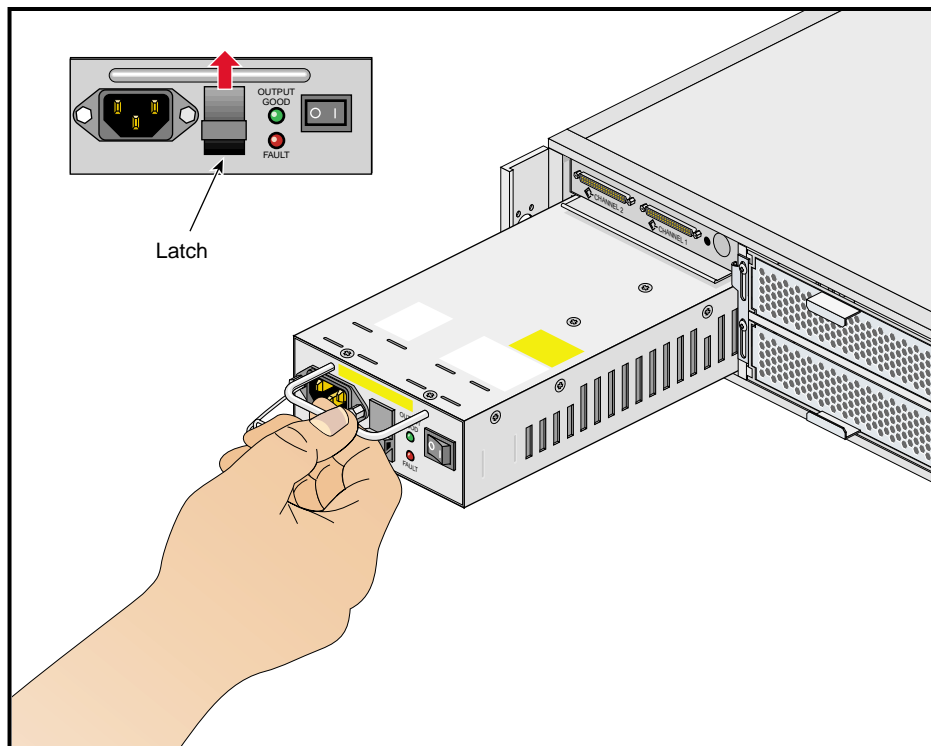

Figure 3-2 Power Supply Latch and Handle
4. To install a replacement module, grip the handle, lift the latch on the front of the PSU, and slide the module into the enclosure (see Figure 3-2). The latch engages automatically.